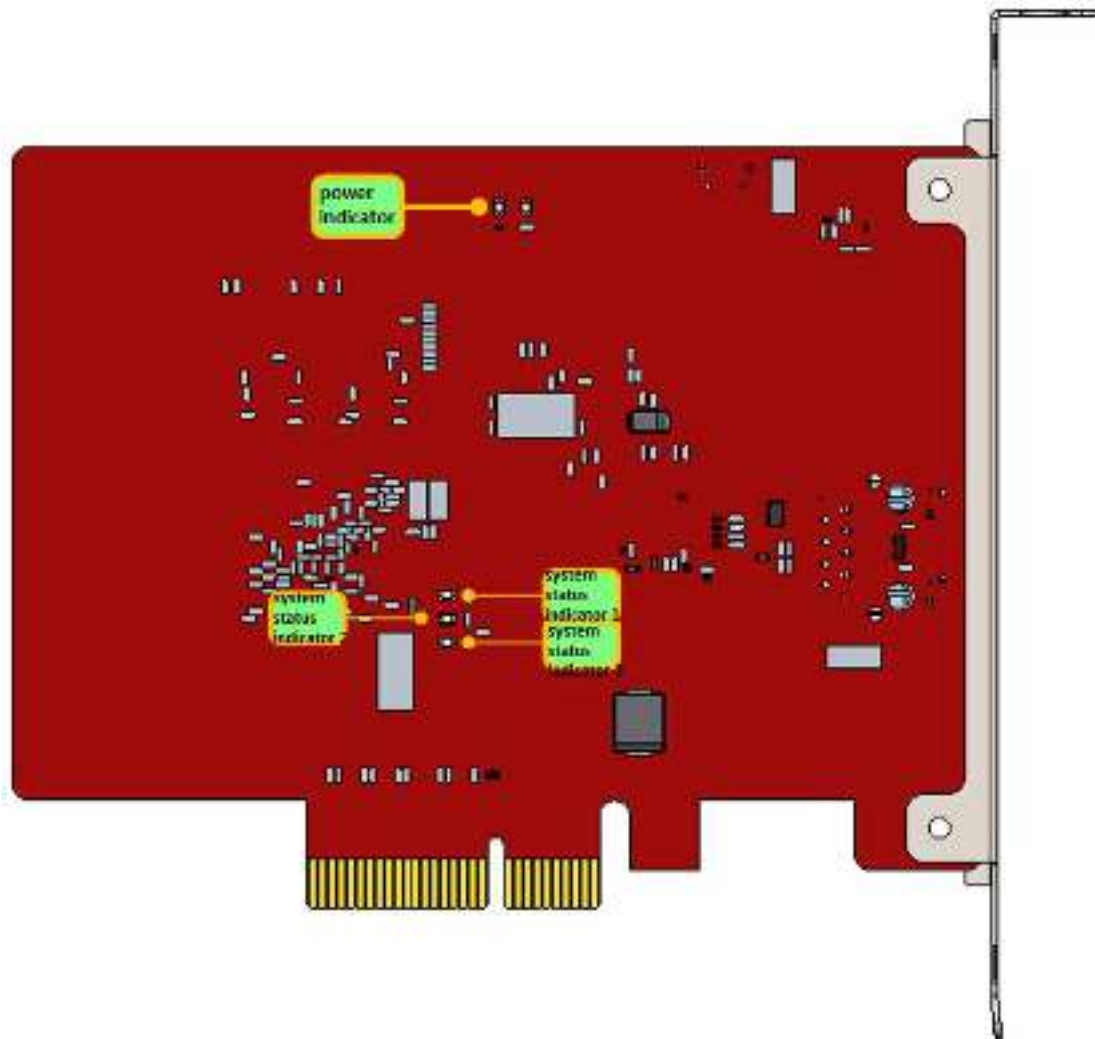

Figure 14 BMC228A Indicators
1. Check the status of the indicators on BMC228A. The positions of the power indicator and system status indicator are shown in Figure 14